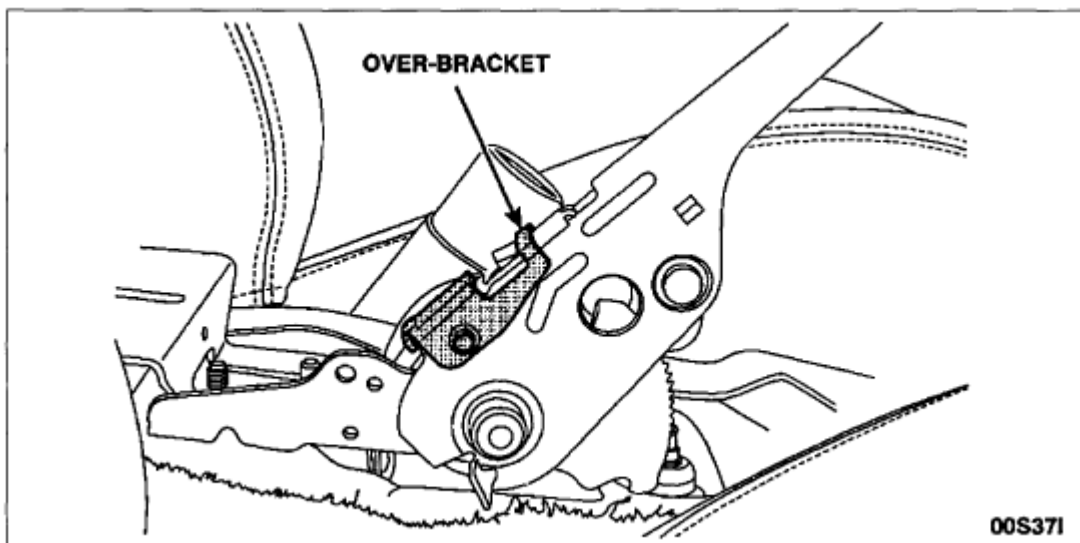

FIGURE 9
- On 1994-2000 model year vehicles position the over-bracket on the control assembly as shown in the illustration. Make sure the over-bracket mounting hole is aligned with the lockpin hole on the control assembly. Install the self-tapping screw and tighten to 3.0 Nm (27 in-lb). See Figure 9.